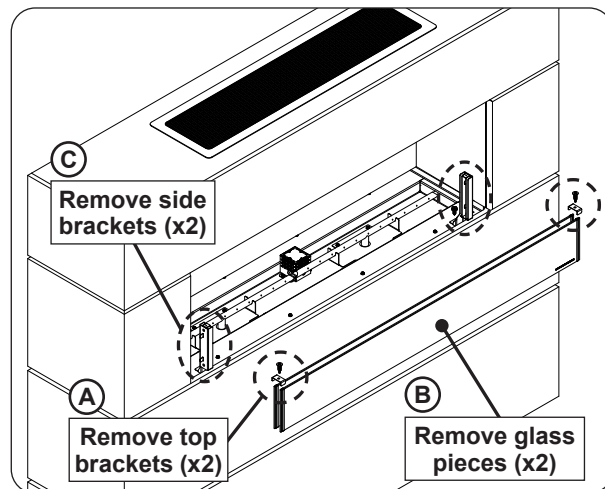

Fig. 47-1 Remove wind guard assembly
1. Remove the wind guard assembly from the burner as shown in Fig. 47-1.